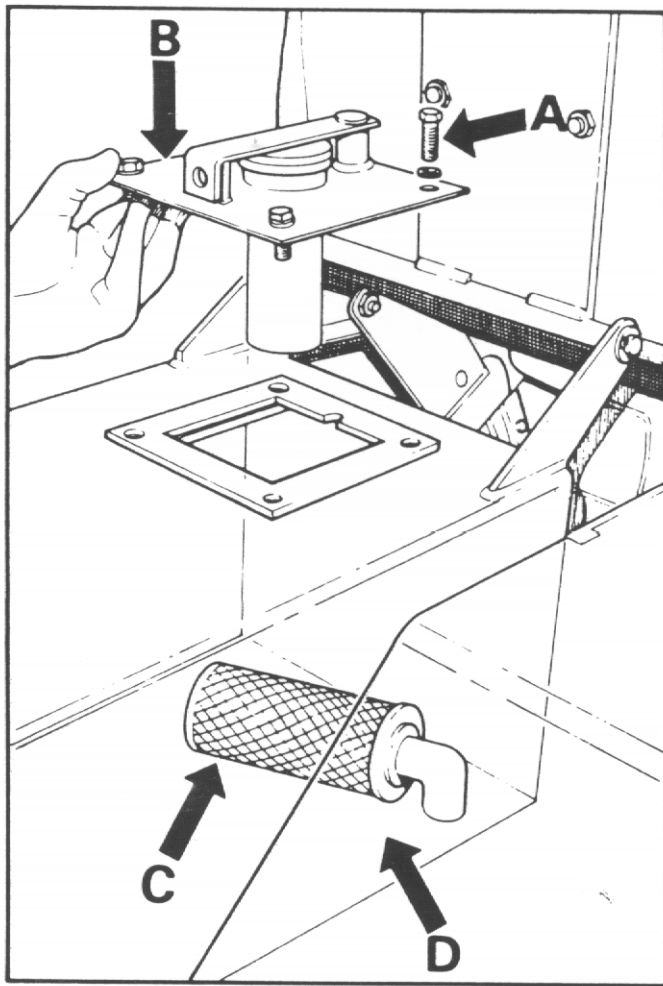

FIG 7
2. Check that hydraulic filter is not blocked (See Fig.7).
- a) Remove the four setscrews (A) that secure the filler cap assembly (B) and remove assembly.
- b) Unscrew suction filter (C) from inside tank (D) and wash in white spirit. Dry with moisture-free compressed air.